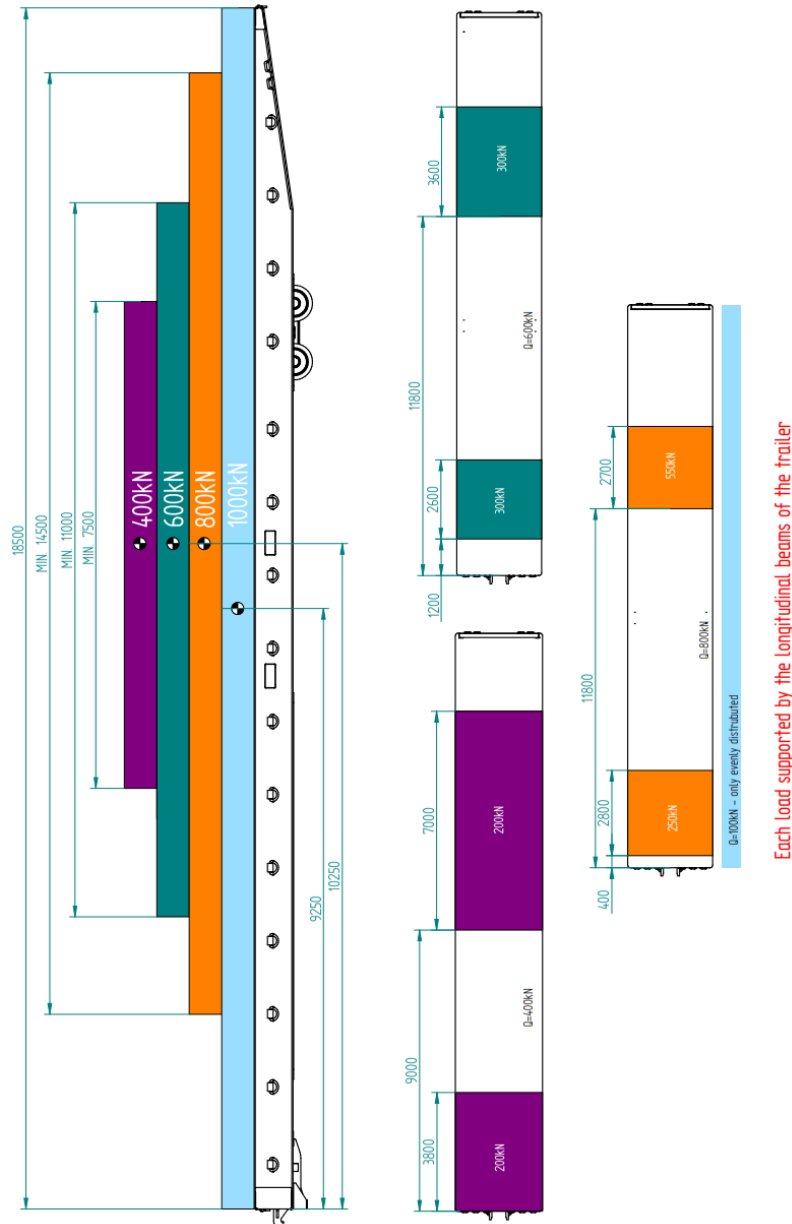

Fig. 2 Load diagram for evenly distributed load
- UDL as shown in the diagram below (Fig. 2) so that the centre of gravity of the load is in the appropriate areas of the diagram;